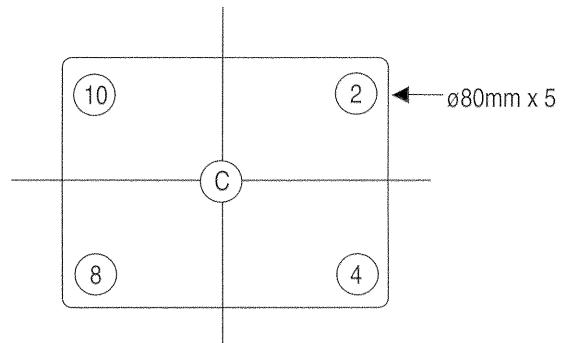

Fig. 2-4
Then, turn the screen to white and check the landing at the screen position shown in Fig. 2-4 with a microscope.
- (12) Turn over the direction of CPT axis direction magnetic field of the next artificial magnetic field and check it by the same way as item (11). The positions of miss landing criteria with a microscope should be 2, 4, 8 and 10. (Fig. 2-4).